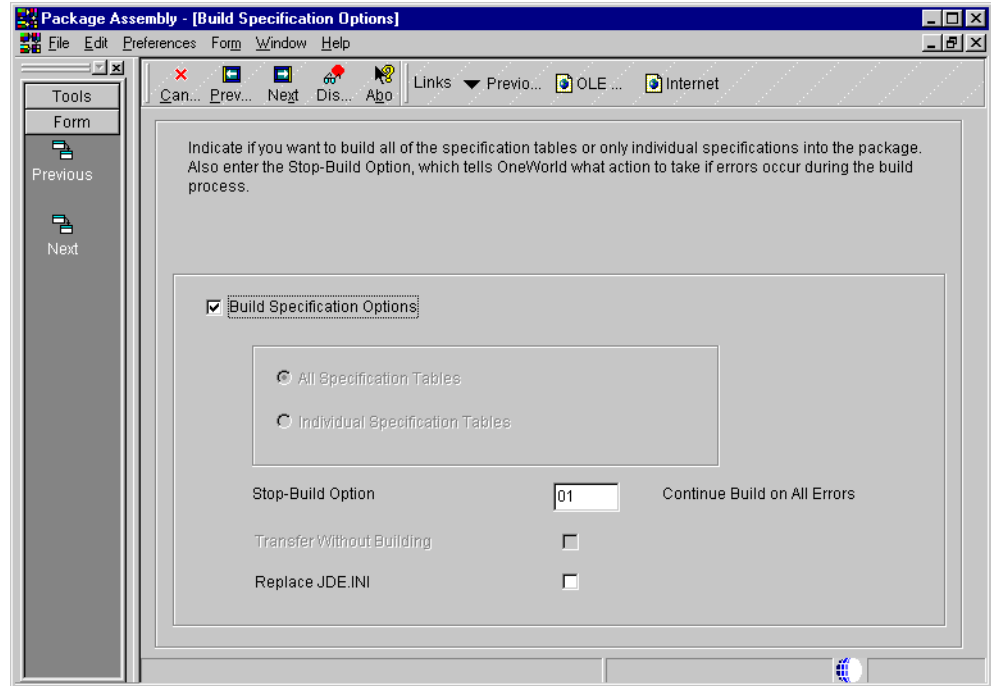

Figure 155. Build Specification Options form
5. Click **Next**. The Build Specification Options form appears (Figure 155).